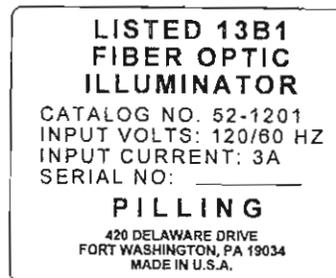

Figure 1-8. Manufacturer civilian data plate.
(2) The manufacturer civilian data plate (located on the back of the endoscopic instrument light) is depicted in figure 1-8.